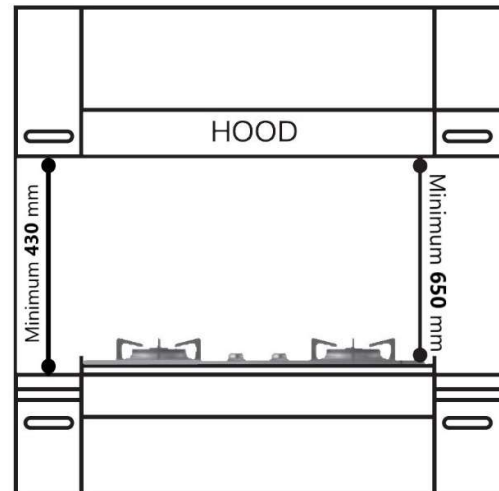

Figure 1.5
- Hoods must be installed according to the installation instruction manuals and at a minimum distance 650mm from the hob (refer to Figure 1.5).
- Wall cabinets adjacent to the hood must have a minimum height of 430mm from the hob. (Refer Figure 1.5).